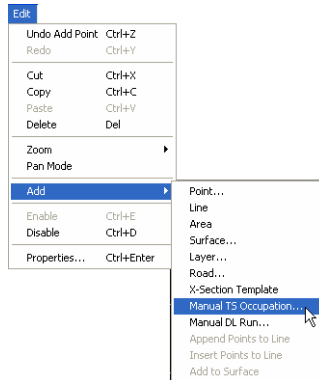

Figure 5-94. Adding a TS Occupation Manually
- Click **File** ► **Add** ► **Manual TS Occupation** (Figure 5-94).